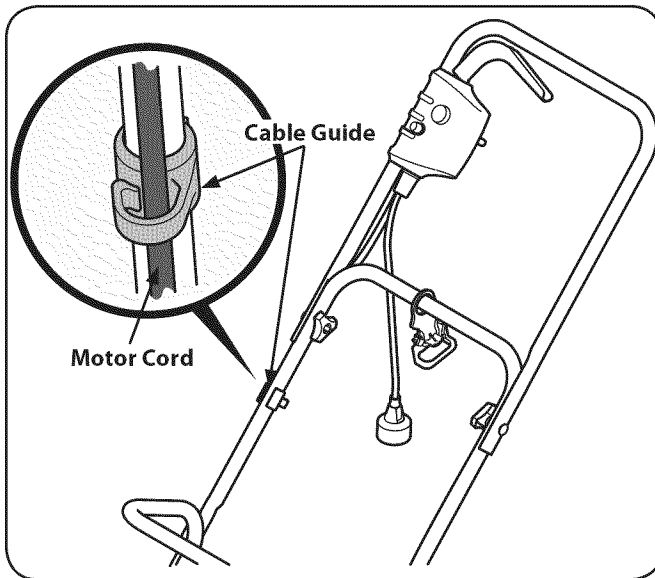

Figure 3-5
6. Secure motor cord to cable guide. See Fig. 3-5.